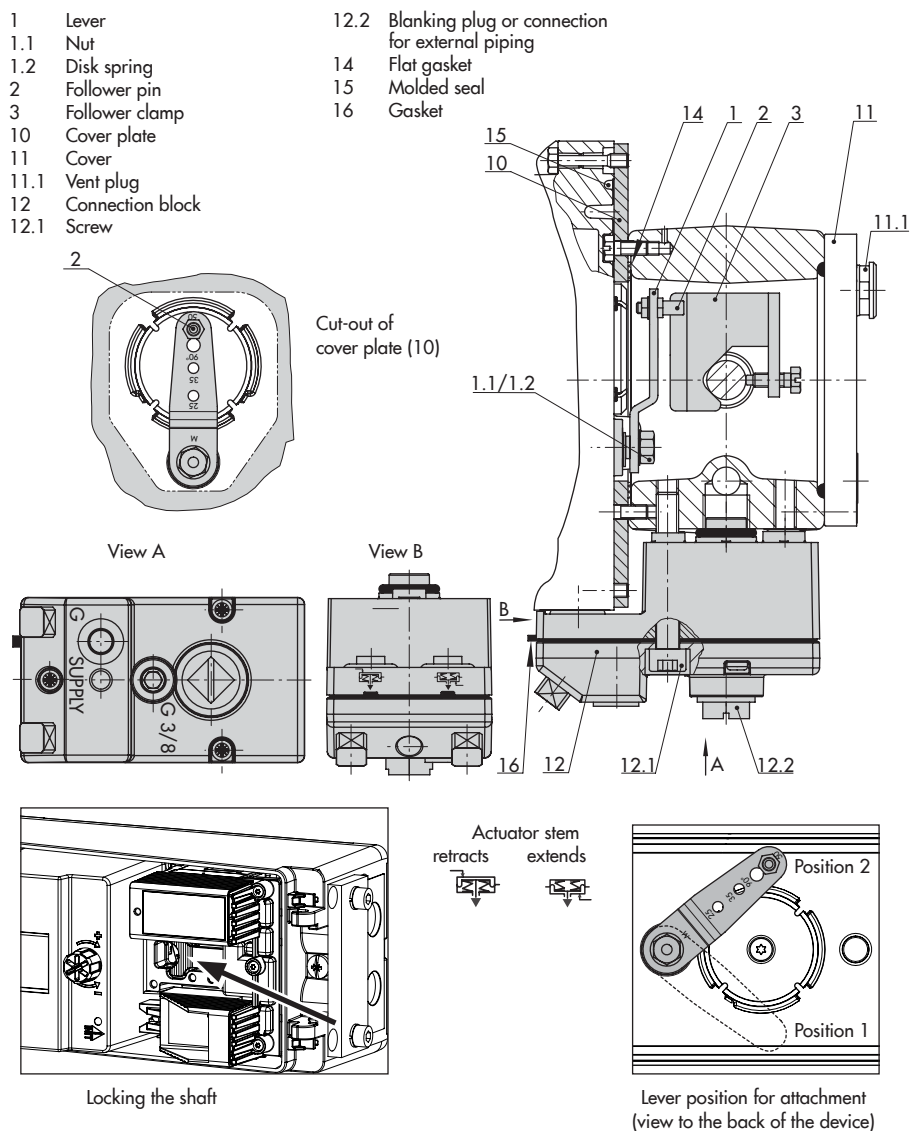

Fig. 5-15: Direct attachment to Type 3277 Actuator (240, 350, 355 and 750 cm²)
To lock the positioner shaft on mounting the positioner on the valve, insert a flat-blade screwdriver into the groove of the limit switch assembly and hold the shaft in position 2 (see Fig. 5-15).
- See Fig. 5-15
1. Place follower clamp (3) on the actuator stem, align it and screw tight so that the mounting screw is located in the groove of the actuator stem.
2. Mount cover plate (10) with narrow side of the cut-out pointing towards the signal pressure connection. Make sure that the glued-on flat gasket (14) points towards the actuator yoke.
3. Check the pin position of the follower pin (2) on M lever (1). Refer to travel tables for type of attachment. If necessary, change the pin position (see Chapter 5.2.1).
4. Insert molded seal (15) into the groove of the positioner housing.
5. Turn the lever counterclockwise until the spring force can be felt (position 1). Continue to turn the lever further to position 2 (see Fig. 5-15, bottom right).
6. Press the shaft lock (see Fig. 5-15, bottom left) to hold the lever in position 2.
9. Press the shaft lock of the prepared positioner (see Fig. 5-15, bottom left) and hold the lever in position 2.
10. Place positioner in such a manner that the follower pin (2) rests on the top of the follower clamp (3). The lever (1) must rest on the follower clamp with spring force.